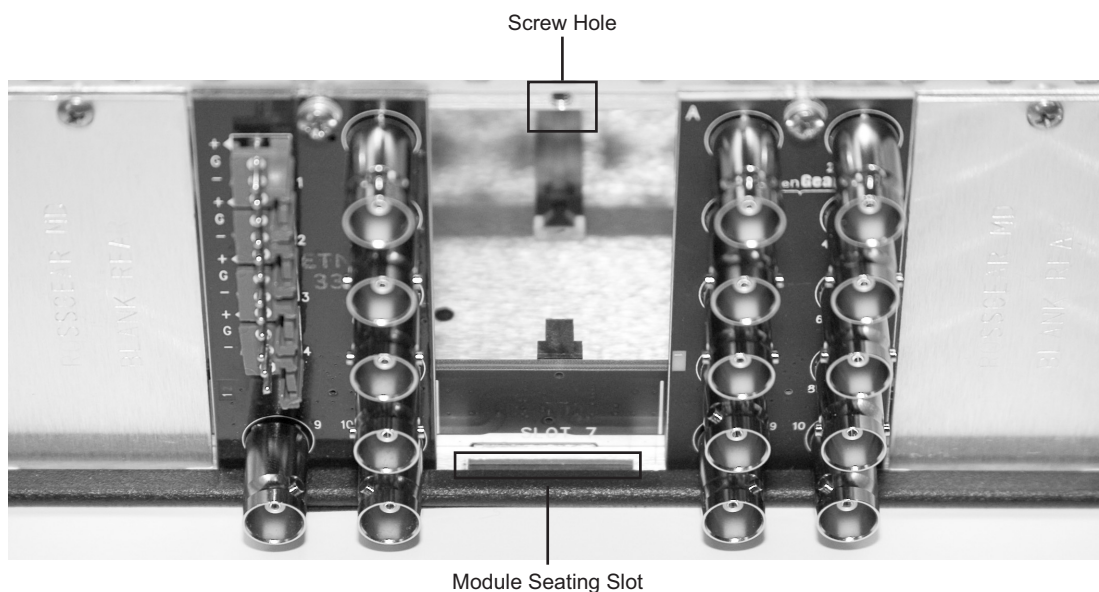

Figure 2.1 Rear Module Installation in a DFR-8310 Series Frame (DAC-8416 not shown)
3. Install the bottom of the Rear Module in the **Module Seating Slot** at the base of the frame’s back plane. (**Figure 2.1**)